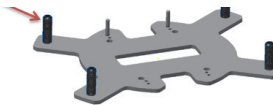

Figure 55
**5.0.12)** Thread in all four of the fully threaded 4" posts (see Figure 55).